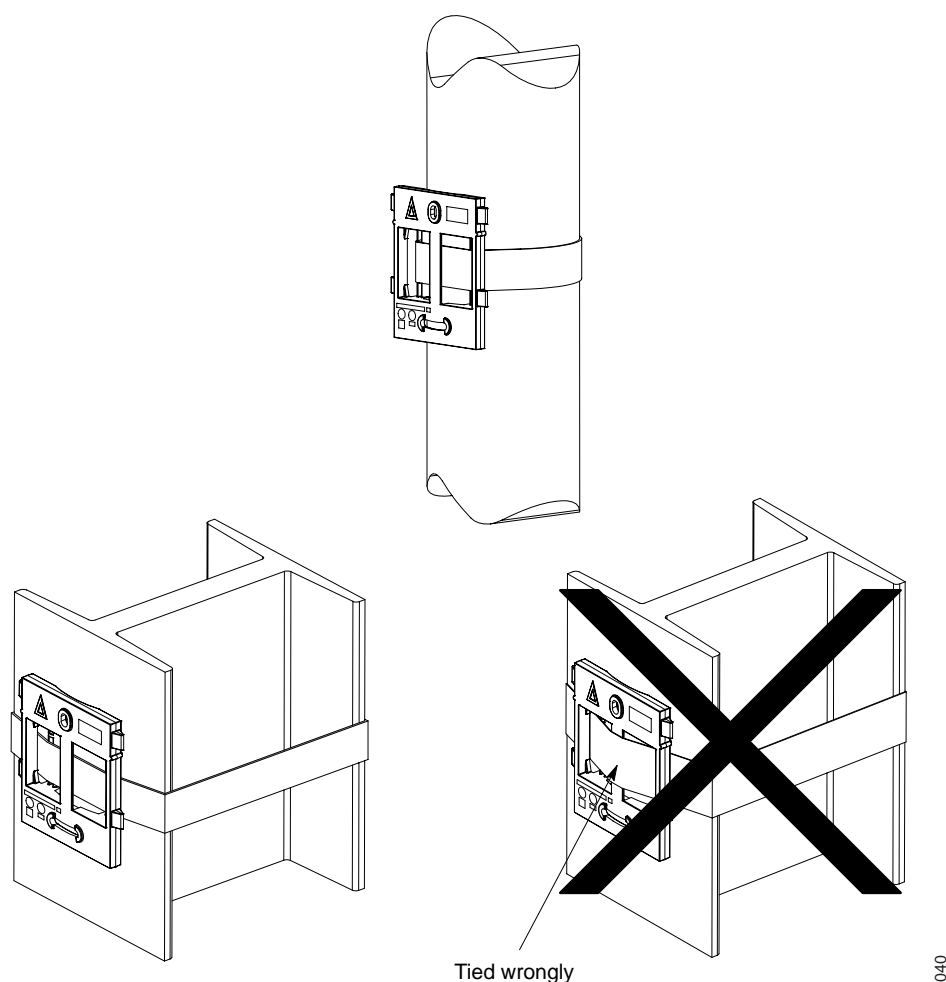

Fig. 38 Fixing the mounting bracket to a pole or beam
1. Fix the mounting bracket to a pole or beam such that the text 'TOP' is right way up (see figure 38).